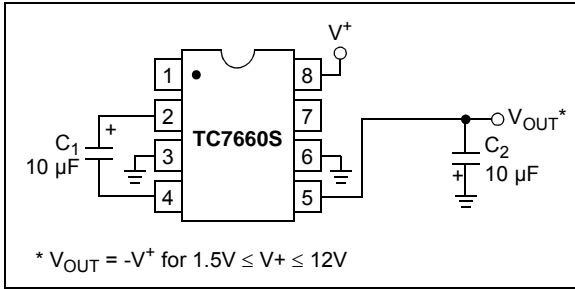

FIGURE 5-1: Simple Negative Converter.
Figure 5-1 shows typical connections to provide a negative supply where a positive supply is available. A similar scheme may be employed for supply voltages anywhere in the operating range of +1.5V to +12V, keeping in mind that pin 6 (LV) is tied to the supply negative (GND) only for supply voltages below 3.5V.
The output characteristics of the circuit in Figure 5-1 are those of a nearly ideal voltage source in series with a 70Ω resistor. Thus, for a load current of -10 mA and a supply voltage of $+5V$, the output voltage would be $-4.3V$.